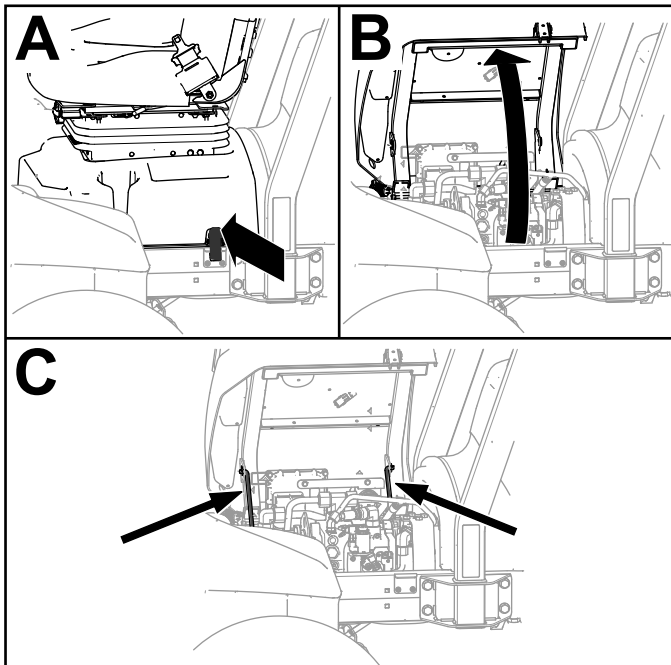

Figure 37
1. Unlatch the seat base (A of Figure 37).
2. Tilt the seat and base open (B of Figure 37).
3. Support it with the prop rods (C of Figure 37).